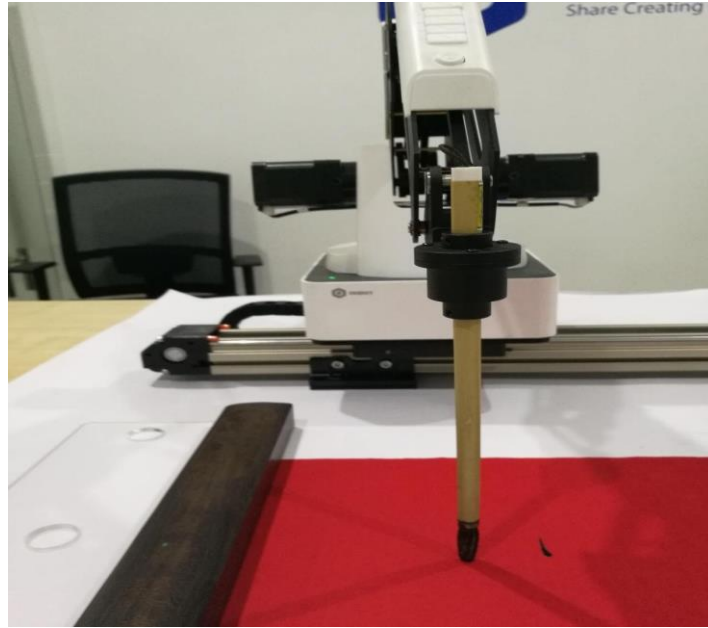

Figure 1.17 Adjust the height of pen
Step 7 Adjust the height of pen. If you want to write bold characters, you should make the pen more close to the paper. According to your needs to adjust it appropriately. As shown in Figure 1.17.